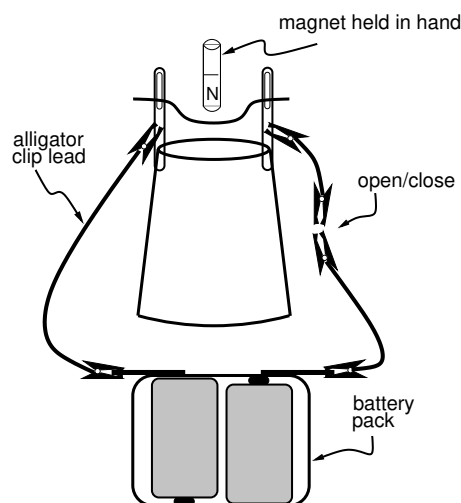

Figure 12.2: Testing deflection of a current-carrying wire.
3. Construct the set-up shown in Figure 12.2. If you were to complete the circuit
shown in Figure 12.2 (*don't close the circuit yet*), would current flow to the right or to the left in the bare metal wire? Note that current flows in the wire from the positive side of the battery towards the negative side. Now, consider *your* set-up. If you were to complete the circuit, what direction would current flow through the wire?
4. If you hold your cylindrical bar magnet close to the bare metal wire, with the North pole side down (as shown in Figure 12.2), what direction will the magnetic field point in the region of the bare metal wire? Use the direction of the current, the direction of the magnetic field, and the right hand rule to **predict** the direction of the magnetic force acting on the wire. Explain your reasoning and write down your prediction.
5. Test your prediction. Hold a cylindrical bar magnet, North pole end down, as shown in Figure 12.2. Bring the magnet as close to the bare metal wire as you can while still allowing the metal wire to swing freely. Make sure the hanging bare metal wire is essentially at rest, and then briefly complete the circuit (it may help if one partner holds the magnet while the other completes the circuit). Does the direction of the wire's initial deflection match your prediction from before? (If the wire doesn't move, it is possible that the wire isn't making good electrical contact with the safety pins. Adjust the position of the wire a little bit, while still allowing it to swing freely.)